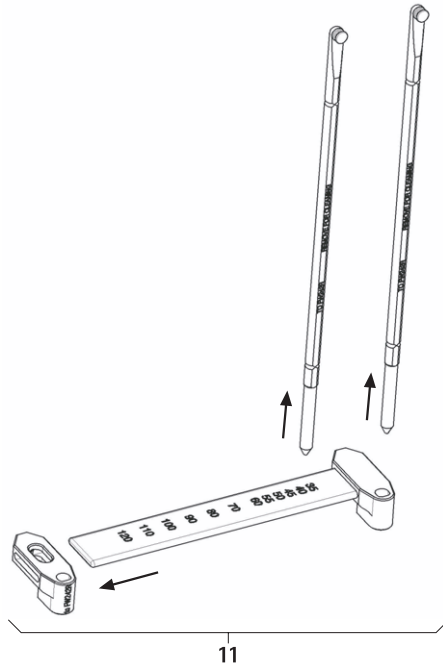

Fig. 7
- Dismount rod length measuring instrument 11, see Fig. 7.